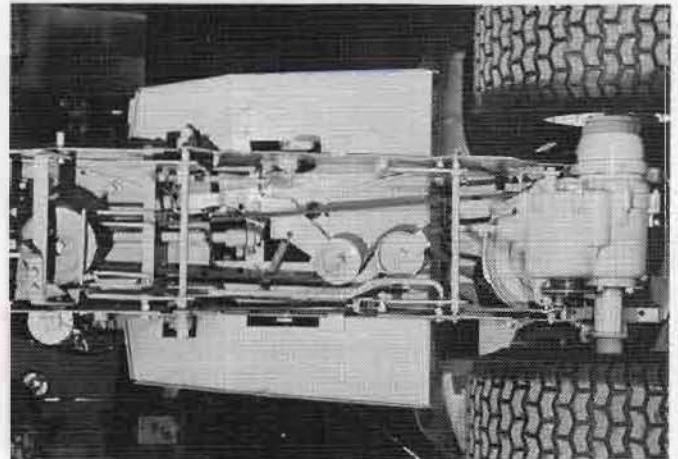

FIG. 15. Drive Belt
9. Engage the clutch and check the position of the belt guides. In the engaged position the idler guides should be positioned as shown in Fig. 15.